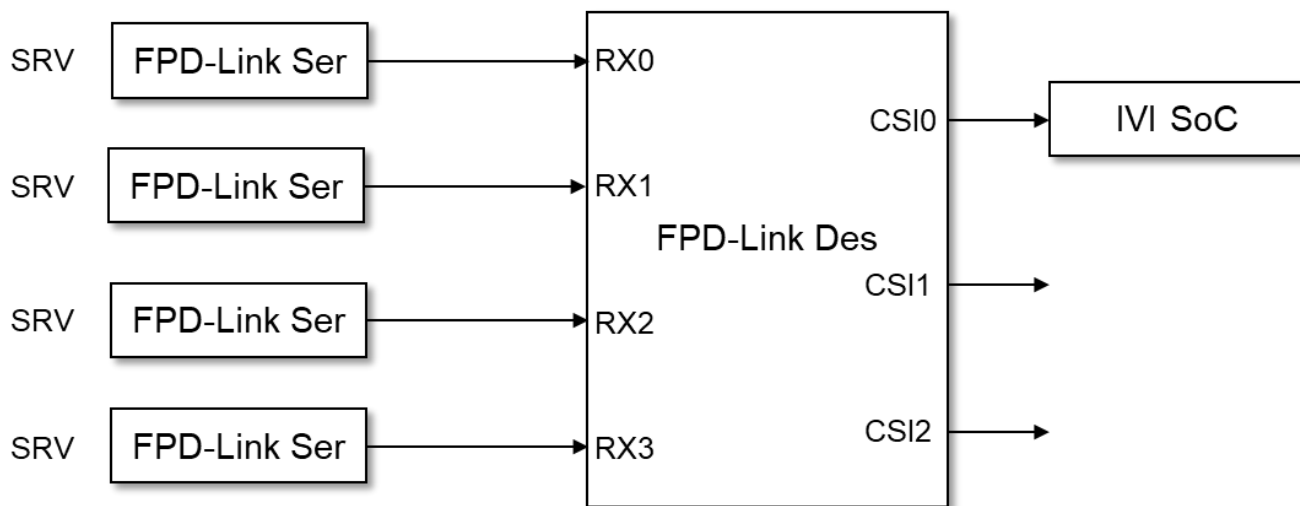
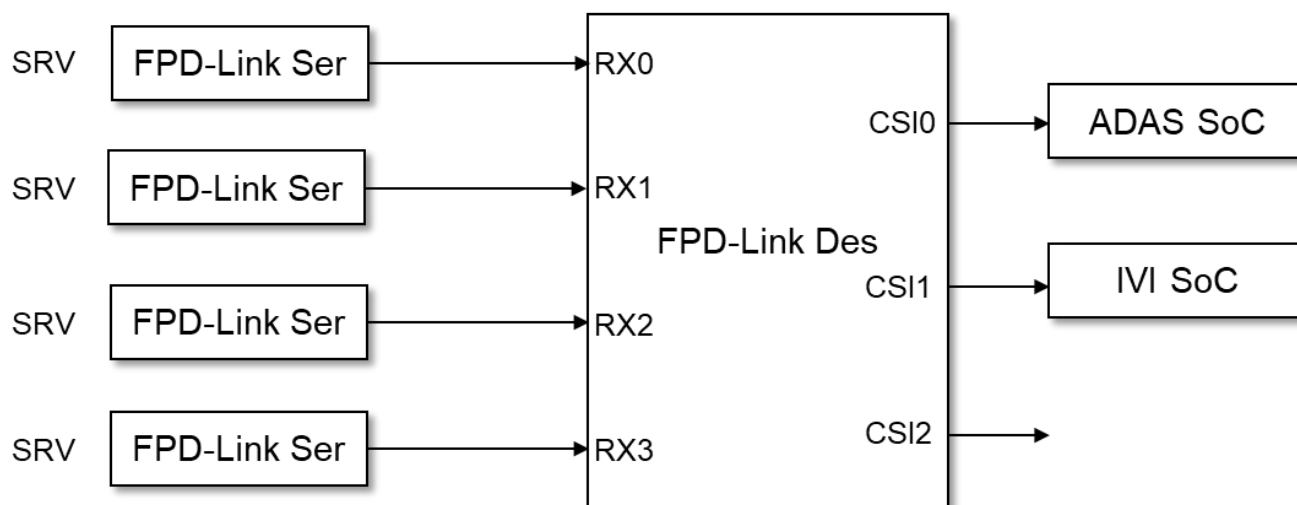

Figure 2-1. FPD-Link Serializer/Deserializer (SERDES) Transmission Schematic Diagram
Figure 2-3. Typical Block Diagram of Single-Stage SERDES Transmission for Automotive 360-Degree Surround View Systems
With the development of Advanced Driver Assistance As shown in Figure 2-1, an automotive 360-degree surround view system is typically composed of front, rear, left, and right four-channel surround-view cameras transmitted to the In-Vehicle Infotainment (IVI) system via a first-stage SERDES, and the IVI SoC performs stitching and image optimization on the multiple camera images. When the vehicle is equipped with ADAS applications, the surround-view camera data needs to be transmitted to the IVI system to achieve panoramic applications, and also needs to be transmitted to the ADAS system to achieve assisted parking. Depending on whether the ADAS SoC and the IVI SoC constitute a single-board system, current automotive 360-degree surround view systems are mainly divided into the following two categories:
2. When the ADAS and IVI systems are a single-board system (Cockpit-Driving Integration Solution), the surround-view camera data is output to different SoCs of ADAS and IVI respectively through different CSI output ports of the deserializer, as shown in Figure 2-3.
For the application scenarios in Figure 2-1 and Figure 2-3, since the IVI SoC can learn which specific channel of the surround-view camera is abnormal by locally accessing the surround Des, it can fill the damaged camera with black data, making the solution relatively simple, as shown in the Figure 3-2 flowchart.